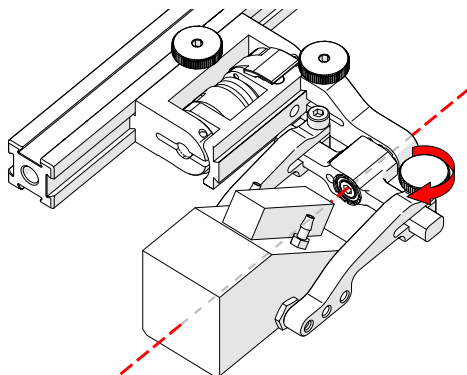

Fig. 82 - Pinch wedge with arm
10. Tighten the probe holder arm adjustment knob (Fig. 82).